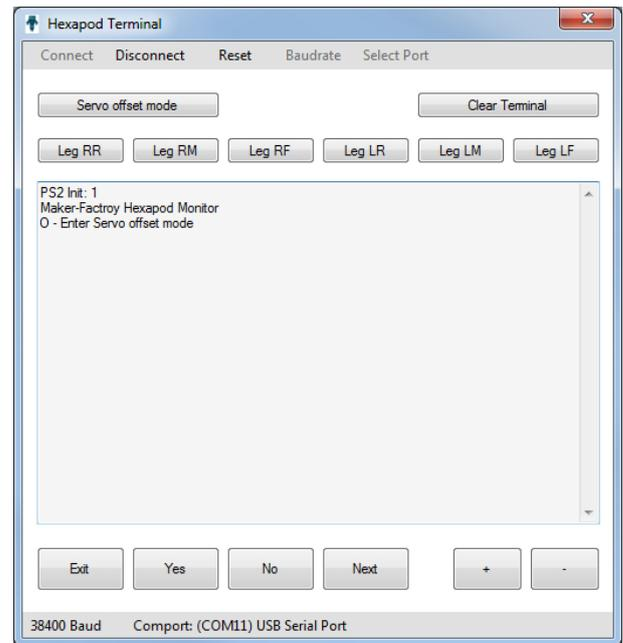

Figure 71
- Click on "Connect". The robot appears in the terminal window, as shown in Figure 71.